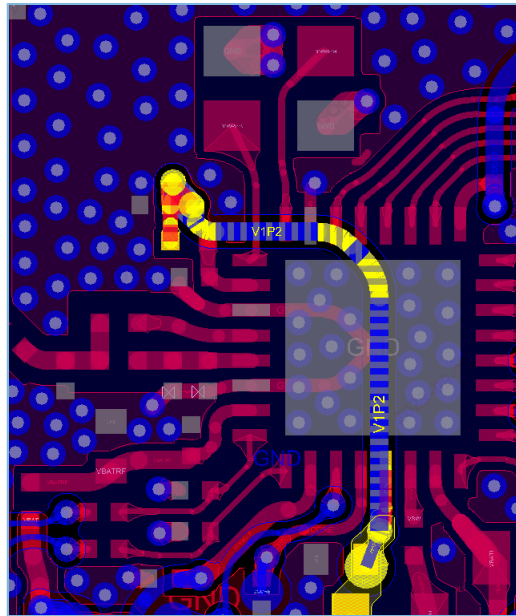

Figure 3-15 Reference layout and routing for RF input power supply
- Avoid connecting the VREG network to the VDD\_RF pin by routing through the RF routing reference layer. Instead, it is recommended to pass through the E-PAD projection area, as shown in Figure 3-15.